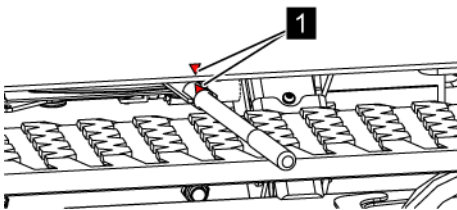

Fig. 146: Red arrows
9. ➔ Make sure that the locking mechanism has engaged properly in place. To do so, the hand pump lever must have been set back enough so that the two arrows (Fig. 146/1) are positioned one above the other.